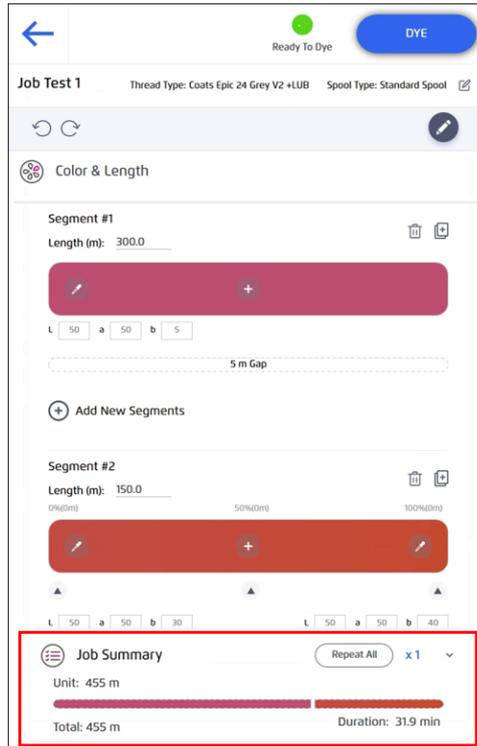

Figure 70: Job Summary
5. Once the new segment is approved, the Job Summary screen appears as shown in figure 70.